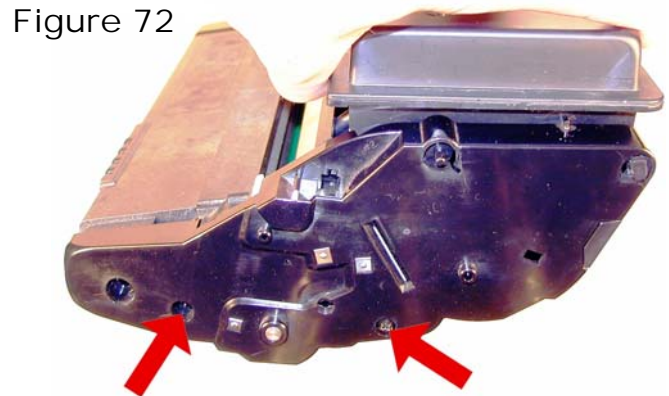

Figure 72
65) Install the two screws into the right side end cap. See **Figure 72**